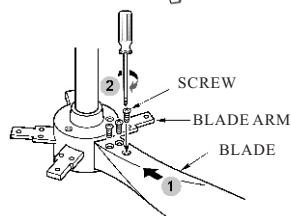

FIG. 10
1. Attach each blade assembly to the blade arm using the blade screws. Tighten them securely (see Fig.10)